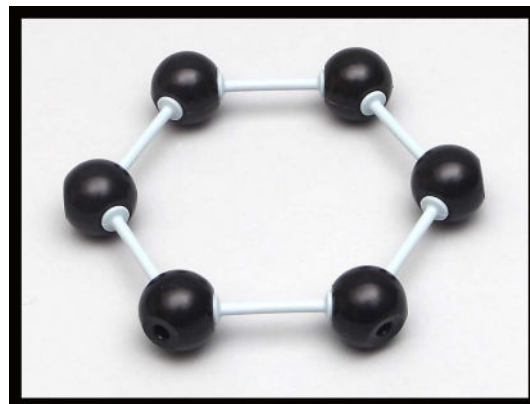

Fig. 1 A hexagon of carbon atoms.
1. Construct a hexagon with six of the 3-hole carbon atom centers and six grey connectors. (Fig. 1)